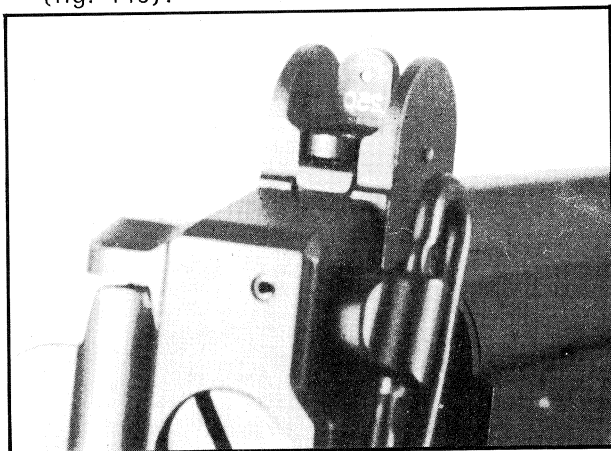

Fig. 146
- Rear sight with two range positions for 150 m and 250 m (fig. 146).